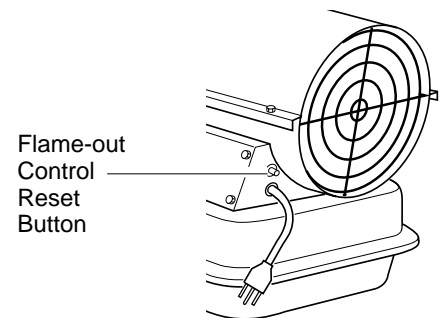

Figure 4 - Flame-out Control Reset Button
5. Plug extension cord into standard 120 volt/60 hertz, three-hole, grounded outlet. Heater will start when extension cord is plugged into outlet. If not, push in flame-out control reset button (see Figure 4).